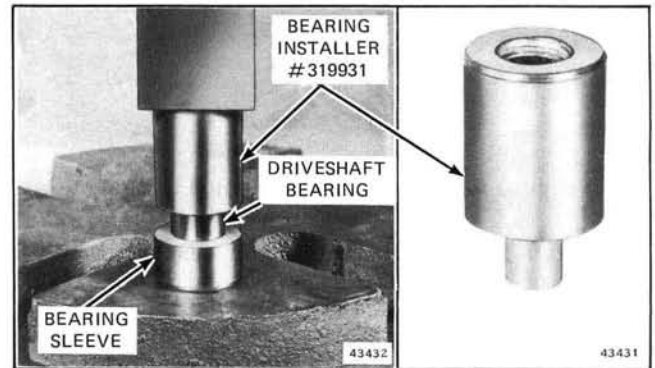
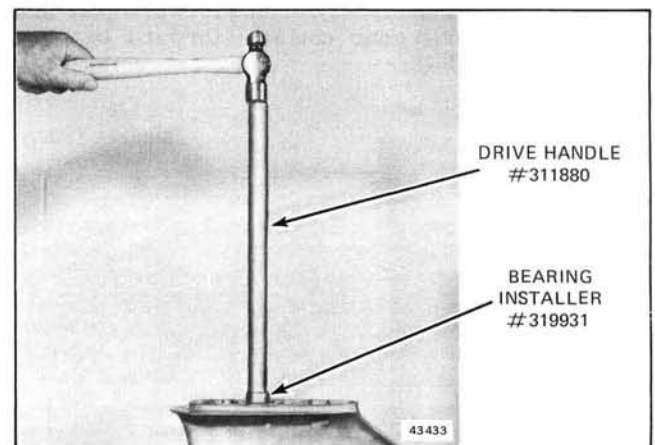
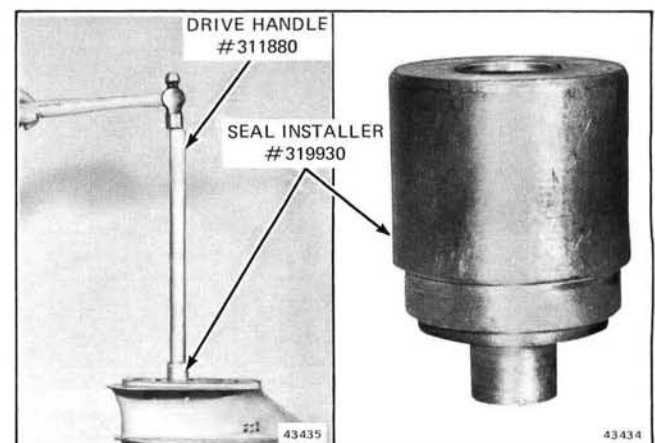

Figure 6-43. Installing Driveshaft Upper Bearing in Sleeve
Figure 6-44. Installing Driveshaft Bearing and Sleeve
Figure 6-45. Installing Driveshaft Upper Seals
4. If removed, press driveshaft upper bearing into sleeve using bearing installer (OMC Special Tool #319931) and an arbor press. Press against lettered side of bearing. See Figure 6-43. Using OMC Special Tool #319931 and drive handle (OMC Special Tool #311880), drive driveshaft bearing and sleeve into gearcase. See Figure 6-44. Drive against lettered side of bearing. Install driveshaft seals back to back using seal installer (OMC Special Tool #319930) and drive handle #311880. See Figure 6-45.